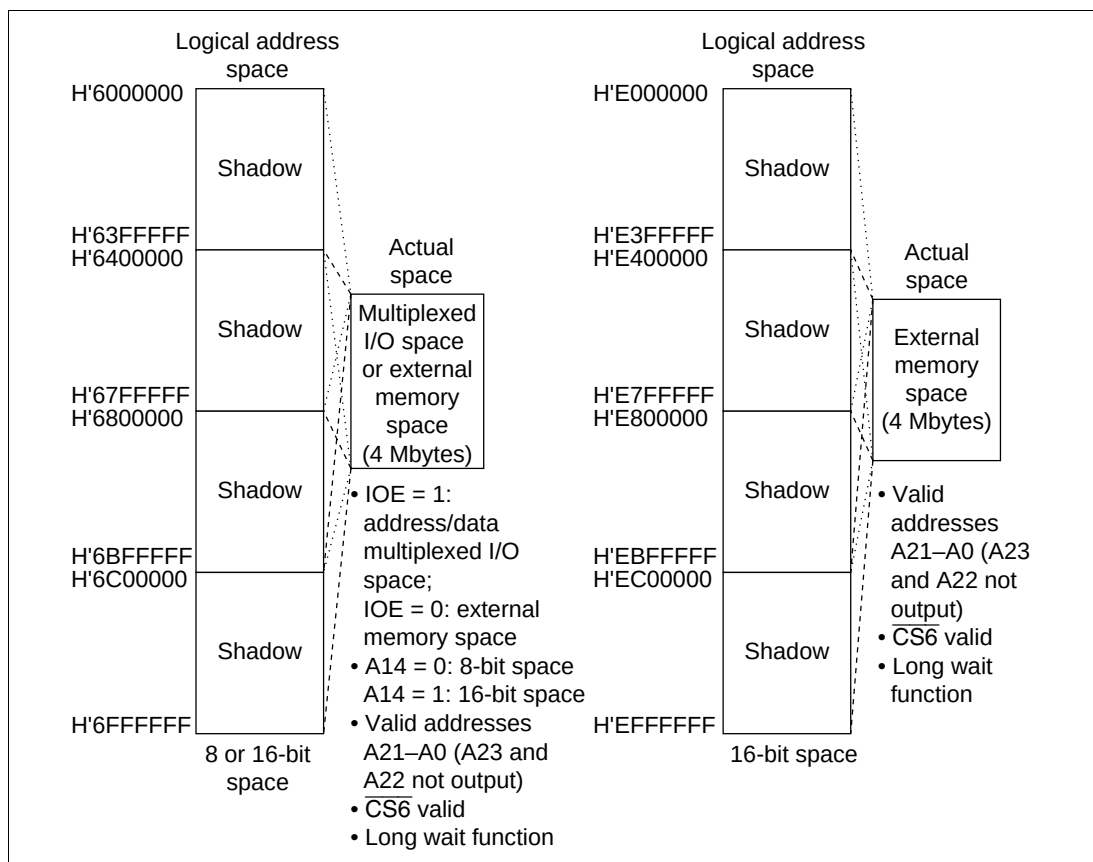

**Figure 8.9 Memory Map of Area 6**
**Area 6:** Area 6 is an area with address bits A26–A24 set to 110 and an address range of H'6000000–H'6FFFFFF and H'E000000–H'EFFFFFF. Figure 8.9 shows a memory map of area 6.